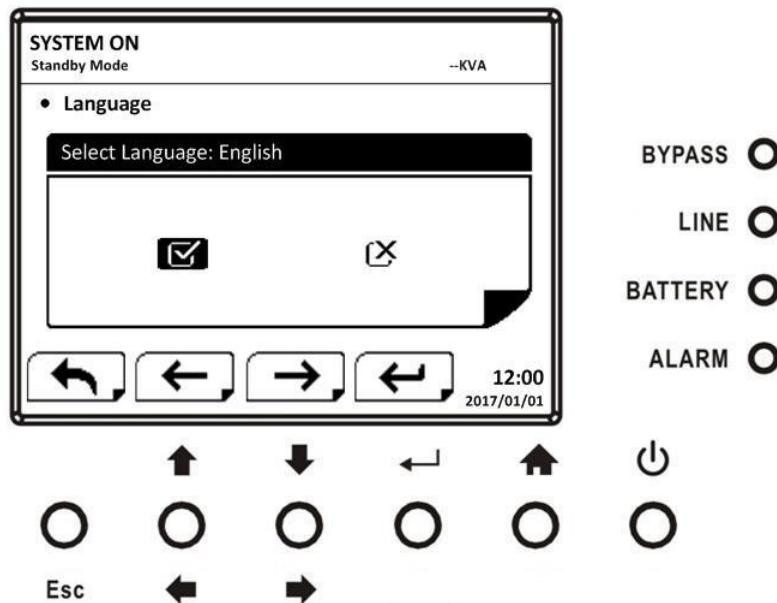

Figure 5-17 SETUP Confirmation screen
Use “” or “” buttons to choose the setting options for setting requirement, then press “” button. The confirmation screen will pop up. Use “” or “” button to choose “V” (YES) or “X” (NO). Choose “V” and press “” button to confirm setting or choose “X” to cancel the setting, as shown in Figure 5-17.